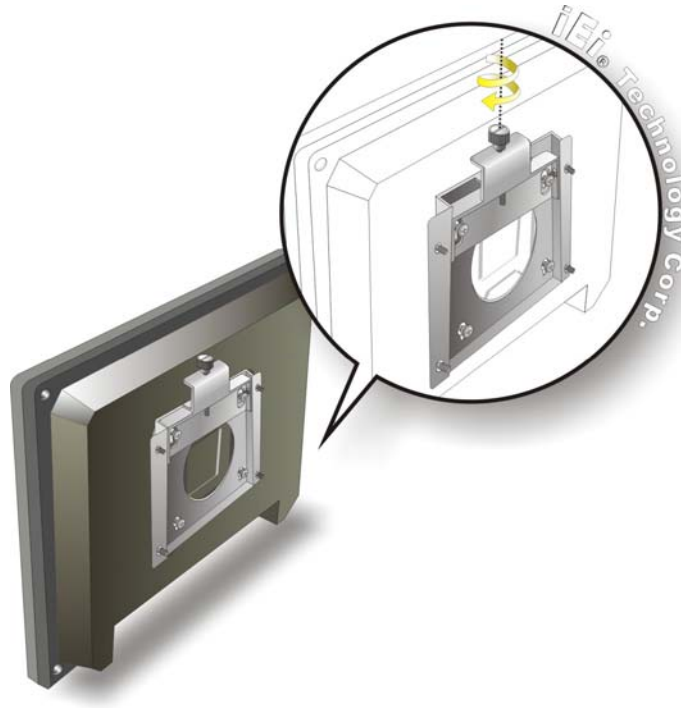

Figure 4-14: Secure the Panel PC
Step 9: Secure the panel PC by fastening the retention screw of the wall-mounting bracket. (**Figure 4-14**).